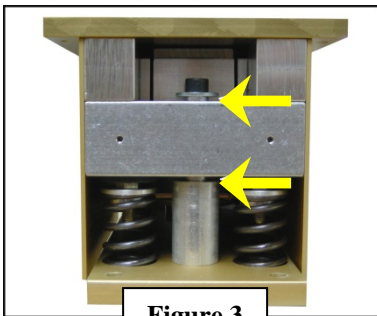

Figure 3
A. There should be a gap above and below the cross brace on each central column, allowing for approximately 2 mm of travel on each side (see Figure 3).